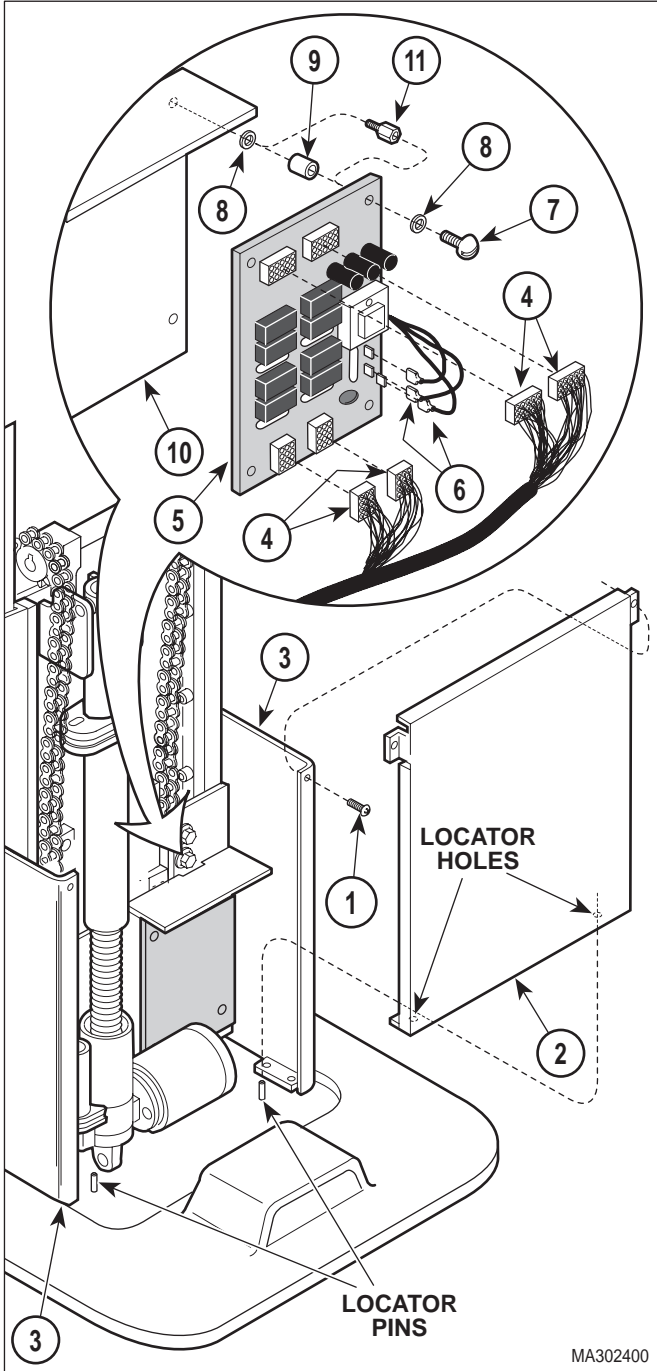

Figure 4-3. Interface Board Removal / Installation
- (2) Unplug table power cord from wall outlet.
- (3) If TABLE UP function cannot be raised all the way up, remove shrouds (Refer to para 4.2 or 4.3).
- (4) Remove two screws (1, Figure 4-3) and back lower shroud (2) from L.H. and R.H support channels (3).
- (5) Tag and disconnect four wire harnesses (4) from connectors of interface board (5).
- (6) Tag and disconnect three wires (6) from terminals of interface board (5).
- (7) Remove four screws (7), starwashers (8), interface board (5), and spacers (9) from brace (10).